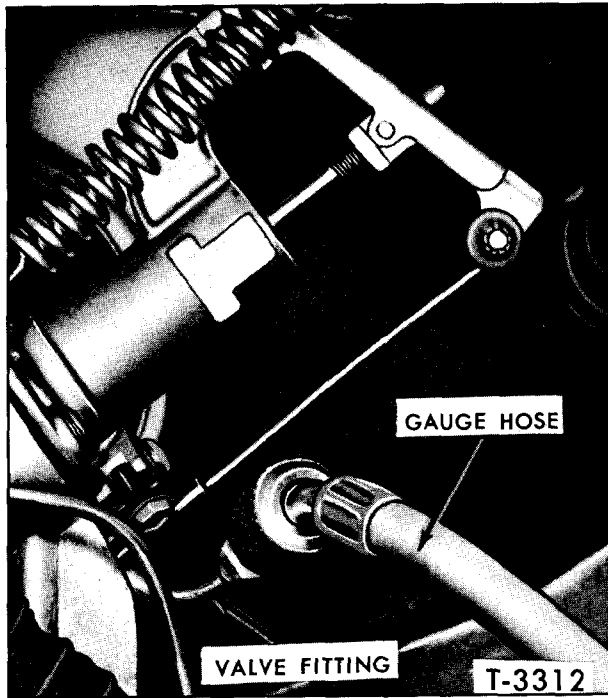
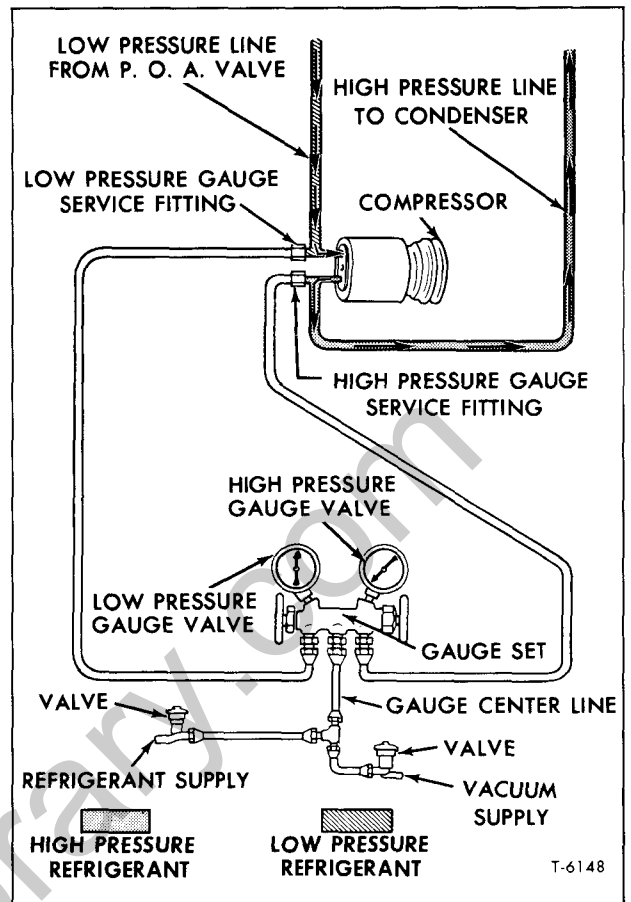
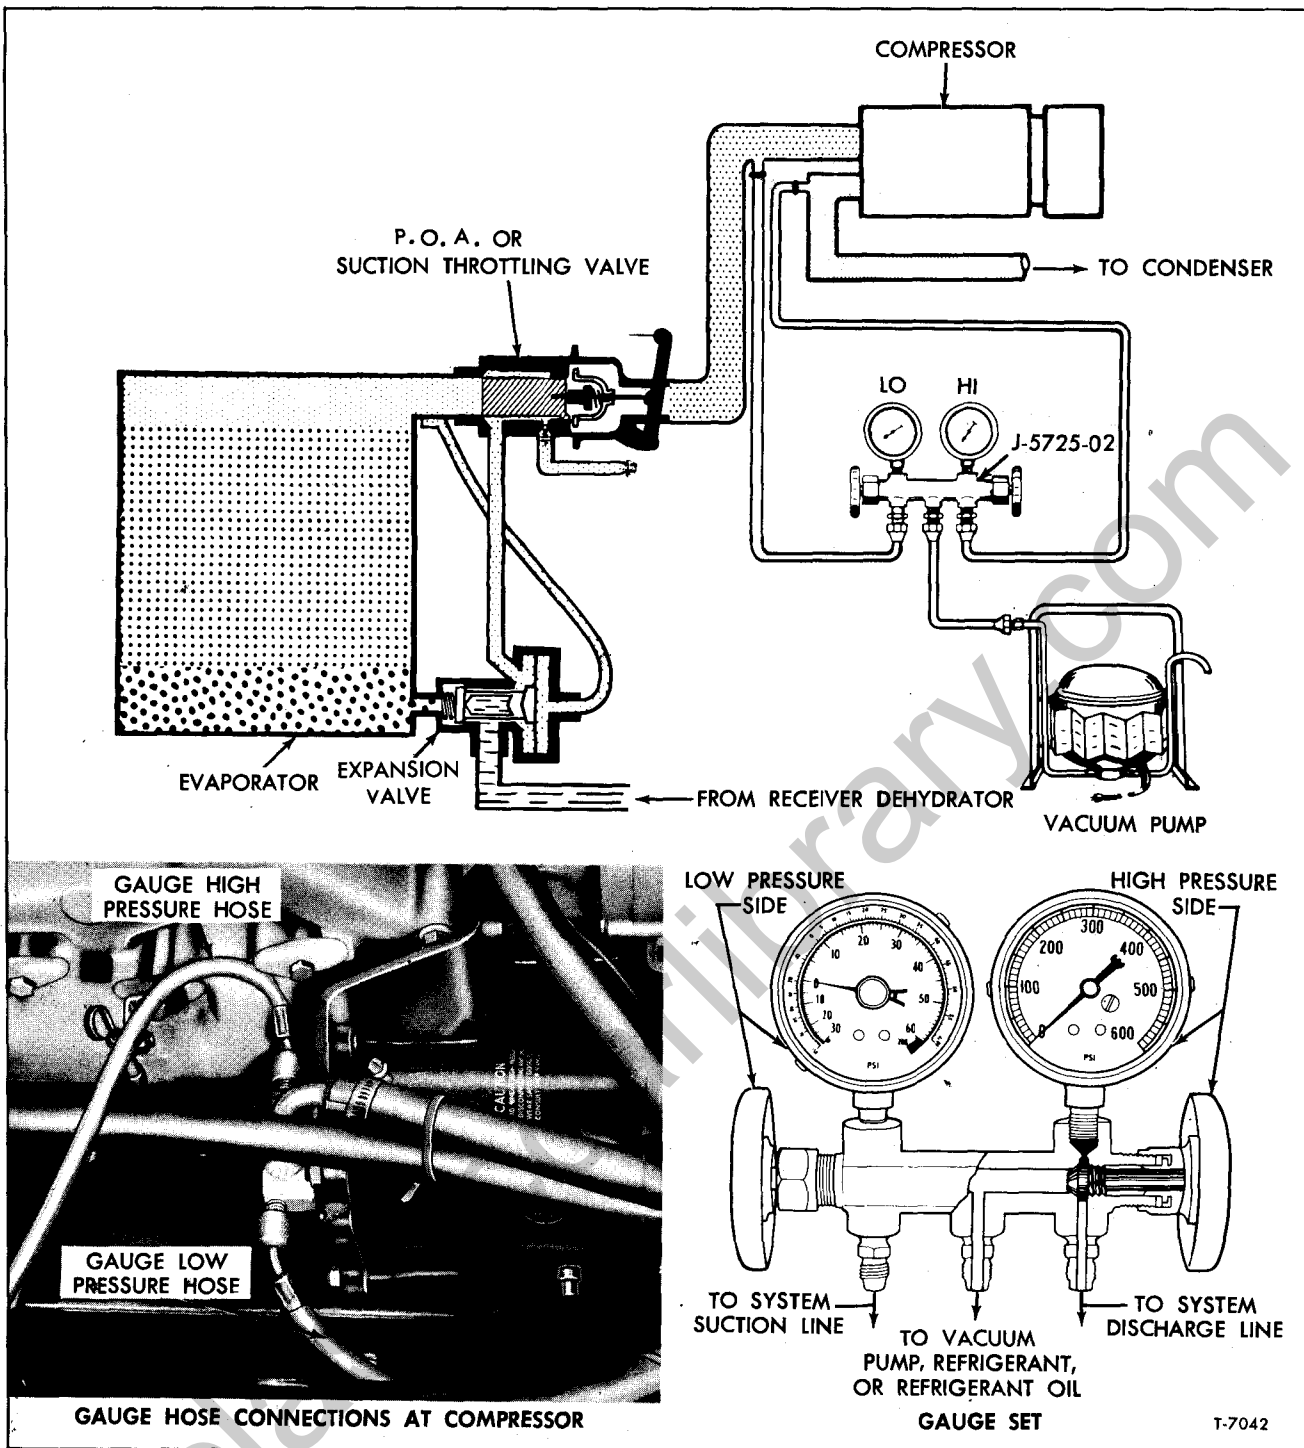

Figure 20—Gauge Hose Connections at Suction Throttling Valve
Figure 21—Schematic of Air Conditioning Gauge
Figure 22—Hook Up of Gauges and Evacuating Pump
1. Connect the gauge set high pressure hose to outer gauge fitting at rear of compressor and connect 30-inch vacuum, 60-psi compound test gauge hose to refrigerant fitting at suction throttling valve (fig. 20), or low pressure line from P.O.A. valve (fig. 21).
NOTE: Install gauge set to compressor gauge fittings (fig. 22) (same connections as shown in figures 21 and 22).
2. If gauge set is not already connected to compressor fittings, connect as follows (refer to fig. 21):
3. Attach a flexible gauge hose to the center fitting of the gauge set and attach the other end of this hose to the vacuum pump (J-5428-02) (fig. 22).